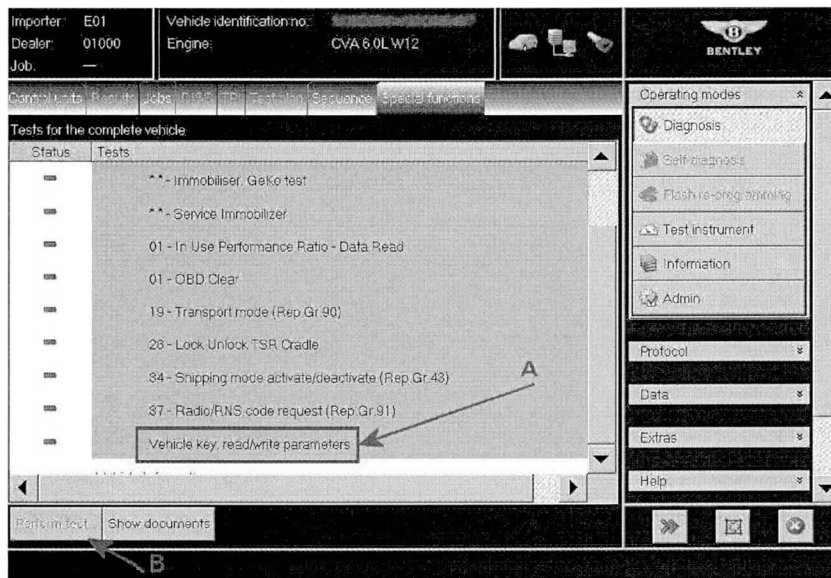
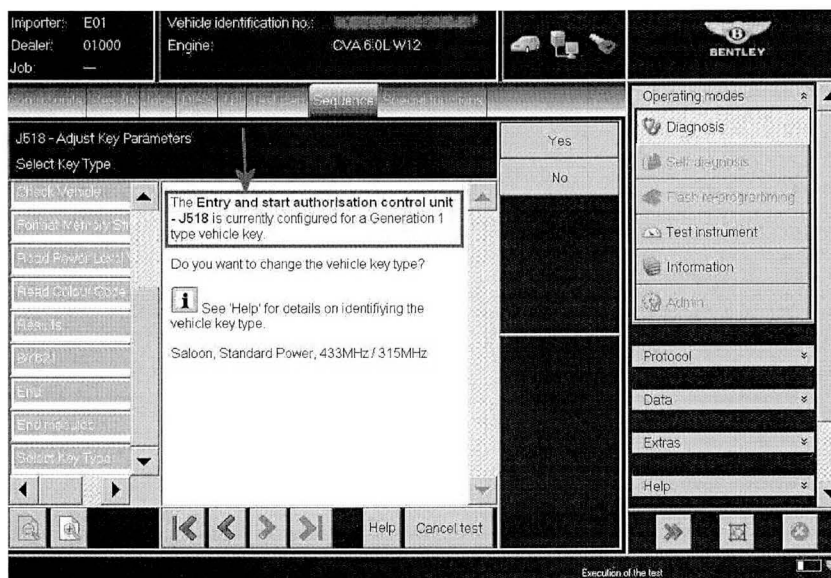

Figure 5
Figure 6
- Select Vehicle key, read/write parameters (Figure 5 Point A)
- Select Perform test (Figure 5 Point B) and follow all on screen prompts until you reach the screen shown in Figure 6
- Figure 6 confirms the Generation of the Entry and start authorisation control unit -J518 -